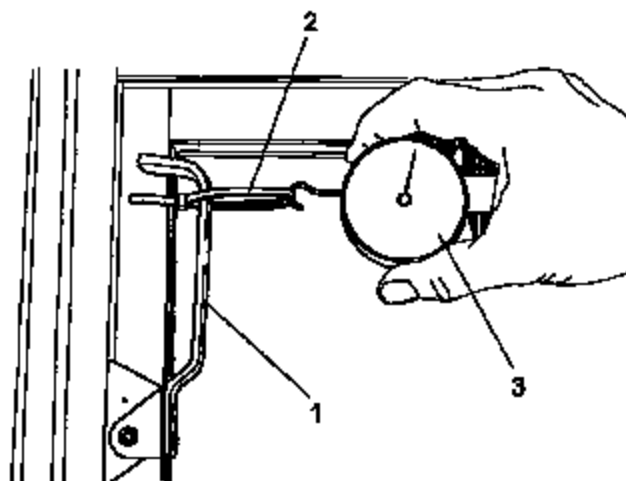

Figure 1-3 Attaching Tension Gauge to Egress Handle
1. Attach tension gauge (3) to the egress handle (1) with a wire tie (2). See Figure 1-3.